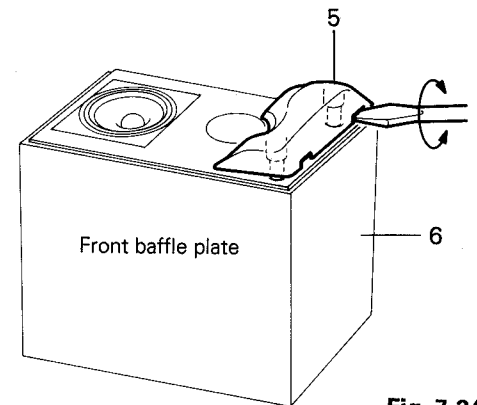

Fig. 7-34
3. Insert the ordinary screwdriver into the gap between the notch of the lower panel (5) and the speaker box assembly while turning it in the direction of the arrow to separate them (Fig. 7-34).